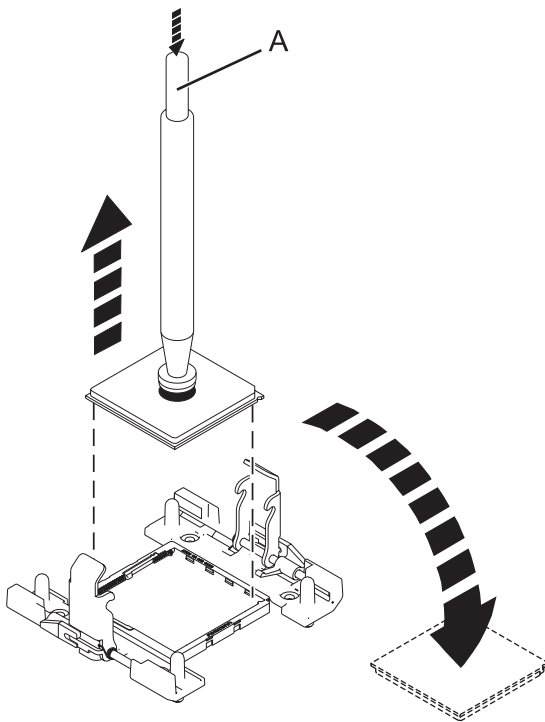

Figure 4. Removing the system processor modules
- a. Fully depress and hold the vacuum pen button (A) and place it in the center of the processor module, then release the vacuum pen button. Releasing the vacuum pen button creates suction. See Figure 4.
- c. While gripping the processor module by the sides, release the vacuum from the pen by pushing the button (A). Place the processor module lid-side (aluminum side) down on a bench.